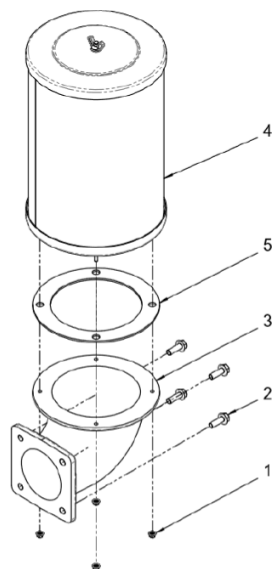

Figure 38. Air Filter Assembly
1. Remove the four bolts (Figure 38, item 2) from the elbow (Figure 38, item 3).
2. Remove the four nuts (Figure 38, item 1) from the air filter (Figure 38, item 4).
3. Remove the air filter (Figure 38, item 4) and gasket (Figure 38, item 5).
1. Place the elbow (Figure 38, item 3) onto the end of the turbo air inlet adapter.
2. Insert and torque down the four bolts (Figure 38, item 2) into the elbow (Figure 38, item 3).
3. Place gasket (Figure 38, item 5) onto the elbow.
4. Insert the air filter (Figure 38, item 4) and insert and torque down the four nuts (Figure 38, item 1).